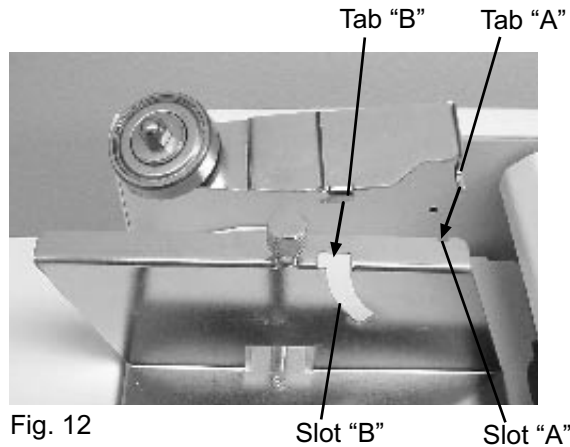

Fig. 12
2. Attach the cross fold paper guide onto the feed tray paper guide (Fig. 12) and lower guide.